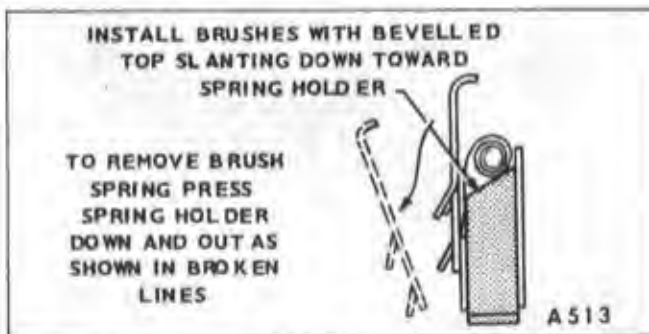
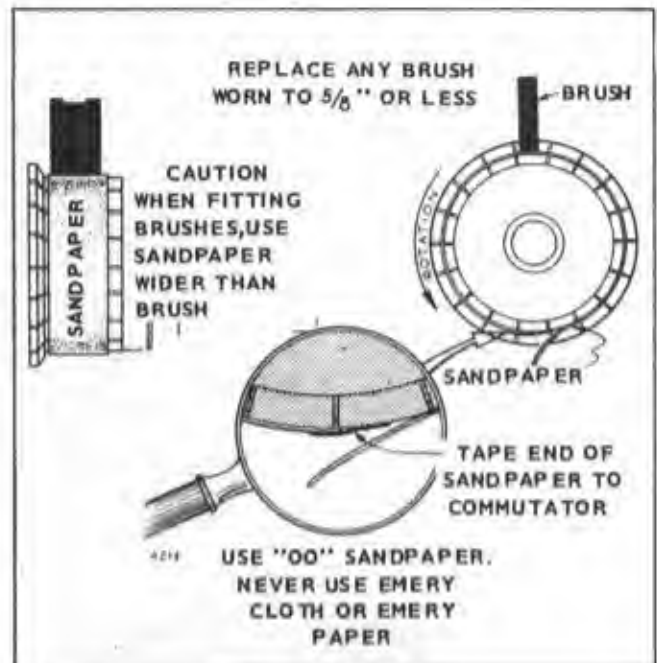

Figure 43. Brush Installation
Figure 44. Seating Brushes
**Brushes:** To examine the brushes, remove the endbell band and cover (Fig. 43). Replace the brushes when they wear to the Onan name and part number. At this point there is about 5/8 in. of brush remaining. If the brush is not replaced, the slip rings or commutator will be damaged. All brushes must have at least a 50 percent seat. If they don't, sand as illustrated in Fig. 44.